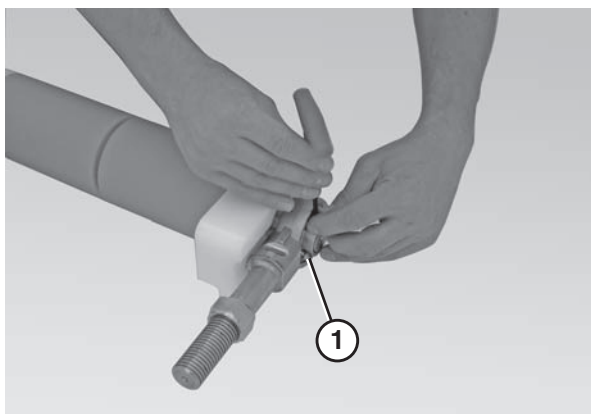

Figure 64
- Use a 4 mm hex wrench to loosen the bearing fasteners (**Figure 64, item 1**).